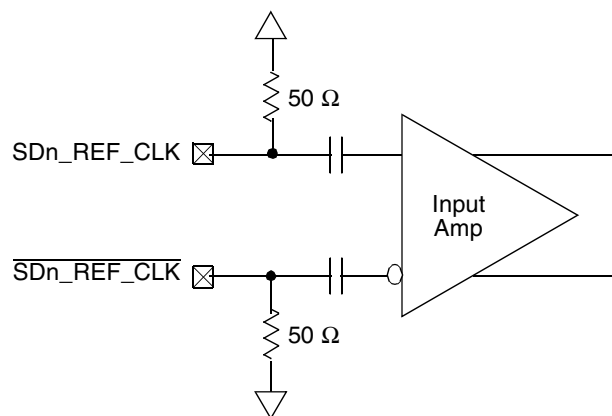

Figure 45. Receiver of SerDes Reference Clocks
Figure 45 shows a receiver reference diagram of the SerDes reference clocks.
- The  $SDn\_REF\_CLK$  and  $\overline{SDn\_REF\_CLK}$  are internally AC-coupled differential inputs as shown in Figure 45. Each differential clock input ( $SDn\_REF\_CLK$  or  $\overline{SDn\_REF\_CLK}$ ) has a 50- $\Omega$  termination to  $SGND\_SRDSn$  ( $xcorevss$ ) followed by on-chip AC-coupling.